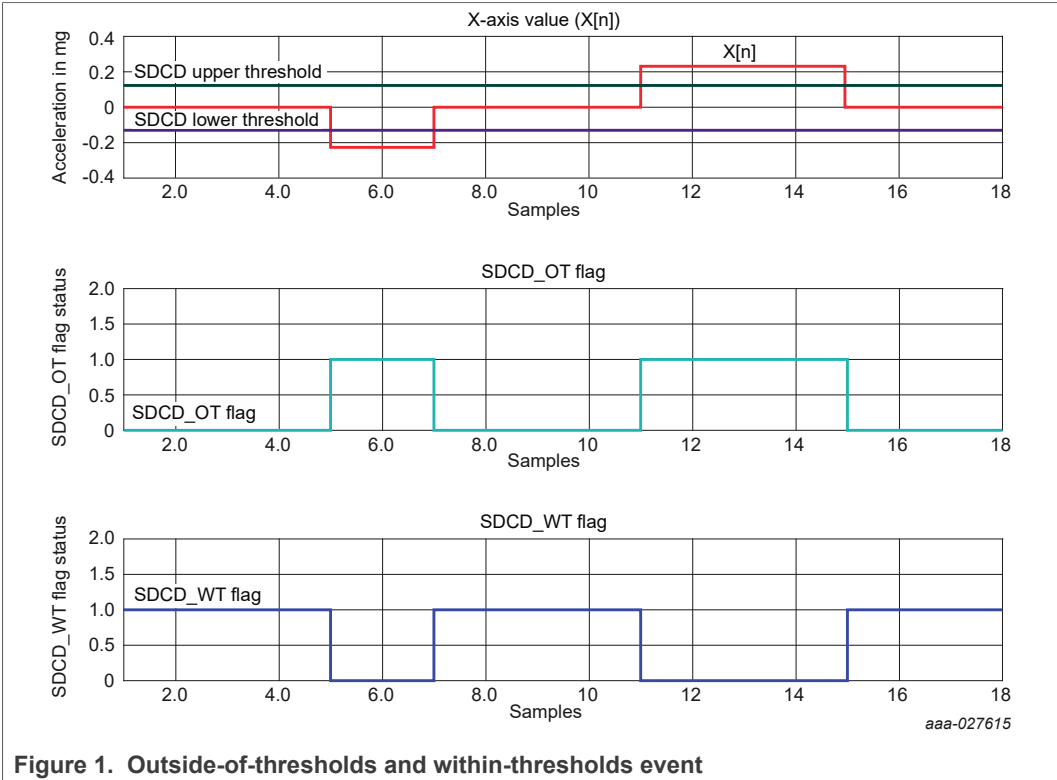

Figure 1. Outside-of-thresholds and within-thresholds event
Simply stated, the acceleration data input ($X[n]$, for example) to the SDCD block is compared against a set of user programmable upper and lower thresholds (see Figure 1) in absolute or relative mode. For simplicity, only the absolute mode of operation is presented. The relative mode of operation is covered in Section 2.5 "Reference update modes".
When the debounce count is set to 0 (Figure 1), the interrupt is generated as soon as the input signal meets the threshold criteria for the OT or WT events. The interrupt is also cleared as soon as the condition becomes false.
- 0b11: The function uses a fixed value of 0 for each of the SDCD_REF_X/Y/Z registers, making the function operate in absolute comparison mode. (Example Figure 1, Figure 4, Figure 5 shows the SDCD block usage in absolute mode)